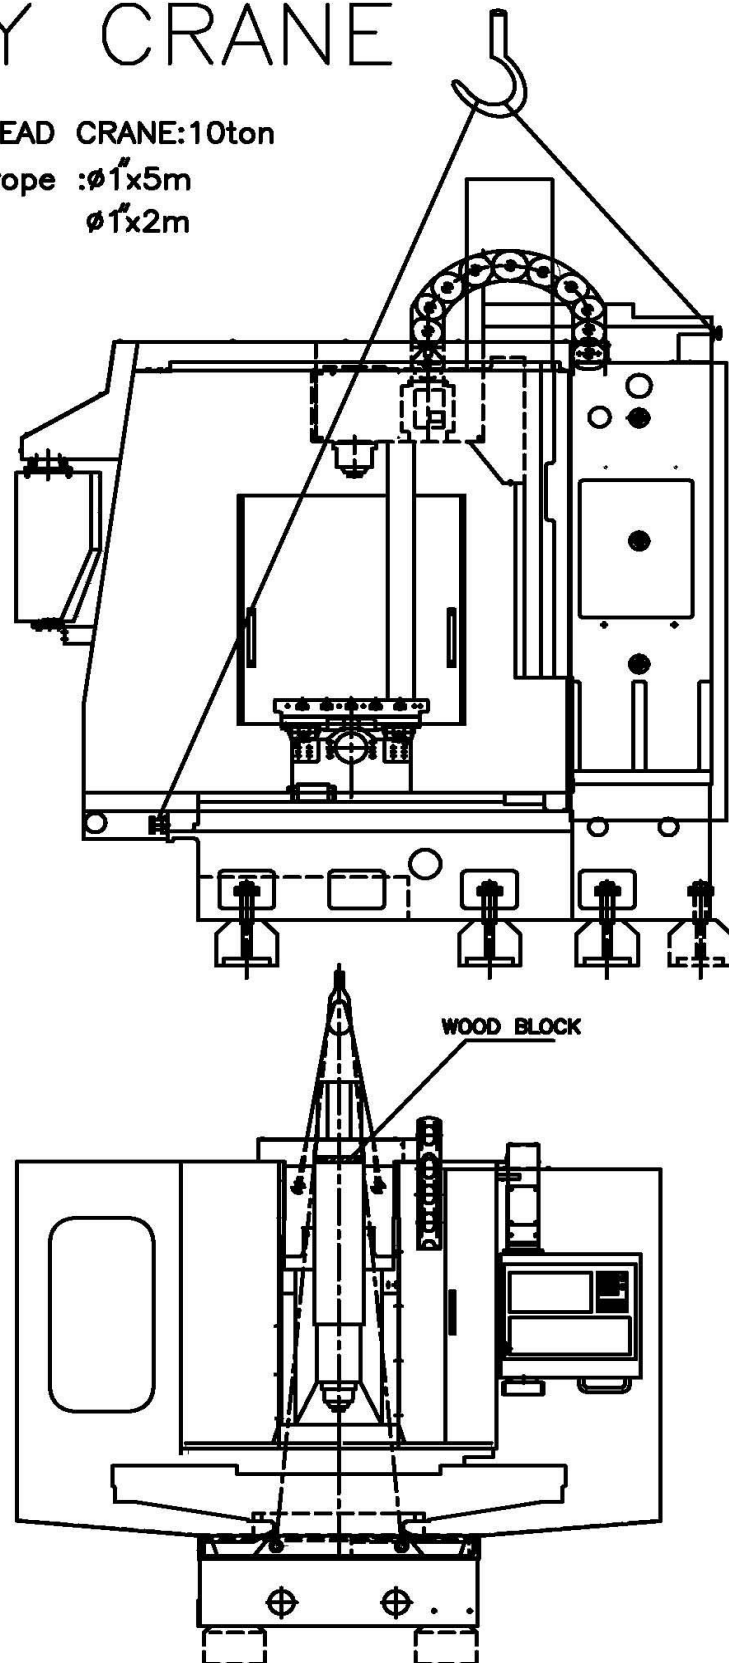

Fig.13
(1) Please don't disassemble the case under normal conditions before the machine reaches the destination.
(2) Remove all obstacles on the transportation way for avoid harming the machine and operators.
(3) The transportation after unpacking is referred to the fixing ways , of fig. 13, 14. The bearing strength of mechanism chosen must be able to bear the weight of VMC 850, 5500Kgs.
(4) Keep the balance of machine during lifting for avoid inclination, which may damage the machine or hurt operators.
(5) The machine consists of spindle housing, column, table, saddle, base seat, electrical box, and ATC mechanism accessories. So be sure to fix all parts during transportation to avoid harming the precision, owing to up & down vibration or big vibration.